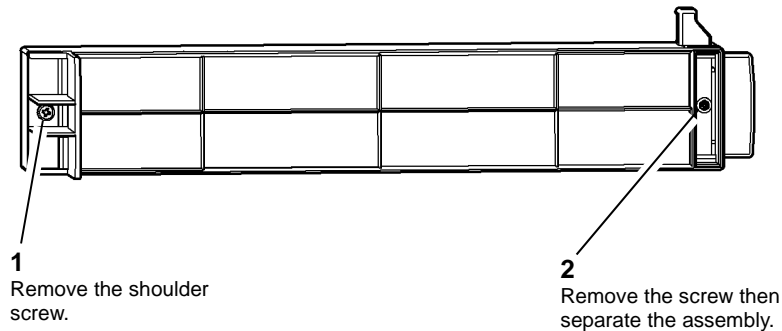

Figure 1 Hole punch blanking assembly
2. Figure 1. Dismantle the hole punch blanking assembly.